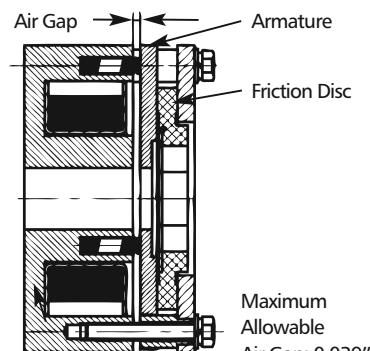

Figure 5 – Checking Brake Gap
- Check for worn brake disc by measuring the brake air gap with a feeler gauge (See Figure 5). Brake gap larger than the allowable wear limit may cause chatter or failure to release.